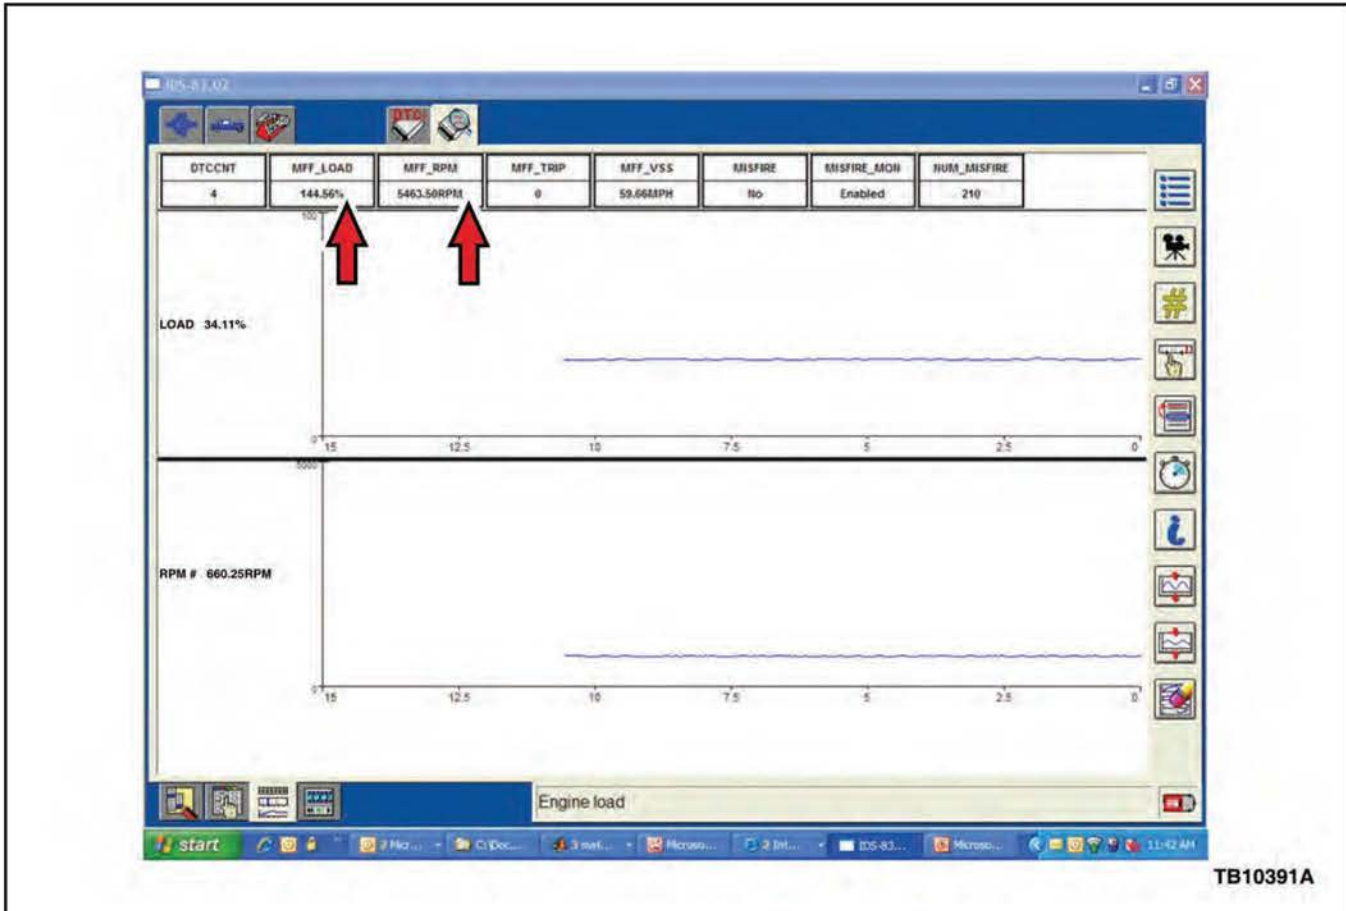

Figure 1 - Article 13-3-3
4. Does the Misfire Freeze Frame Data indicate engine speed above 2500 RPM and load 100% or above? (Figure 1)